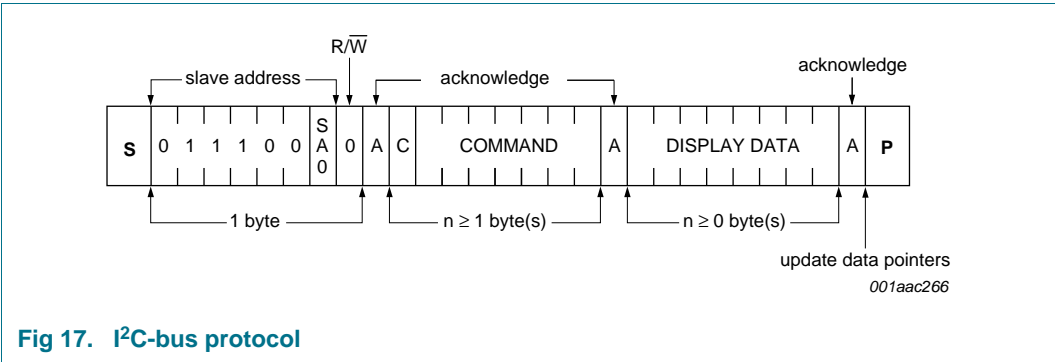

Fig 17. I2C-bus protocol
The I2C-bus protocol is shown in Figure 17. The sequence is initiated with a START condition (S) from the I2C-bus master which is followed by one of two possible PCF8562 slave addresses available. All PCF8562s whose SA0 inputs correspond to bit 0 of the slave address respond by asserting an acknowledge in parallel. This I2C-bus transfer is ignored by all PCF8562s whose SA0 inputs are set to the alternative level.